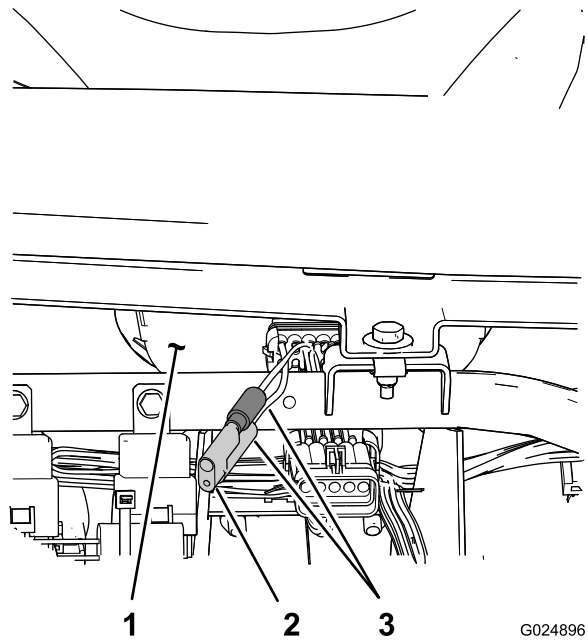

Figure 62
3. Locate the 2 loose wires next to the speedometer (Figure 62).
4. Remove the connector plug from the harness wire and connect the wires together (Figure 62).